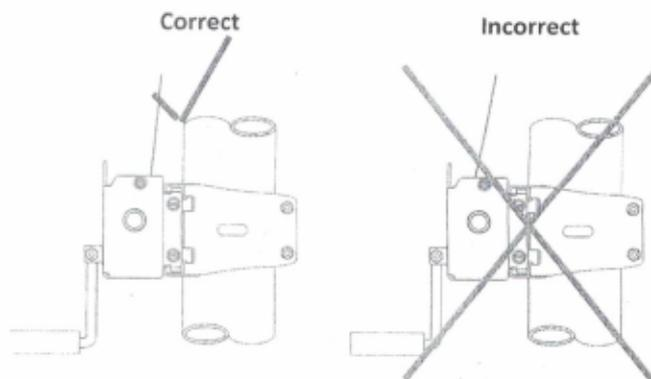

Figure 1
****Note:** Please Make sure that once the unit is installed the strap is tensioned by rotating the handle clockwise (see nameplate on winch for tension direction). This will mean that the strap is exiting the spool of the FT5005 closest to the volleyball post that it is mounted to (see Figure 1 to the right for illustration). Failure to do this will result in premature wear and void the warranty.